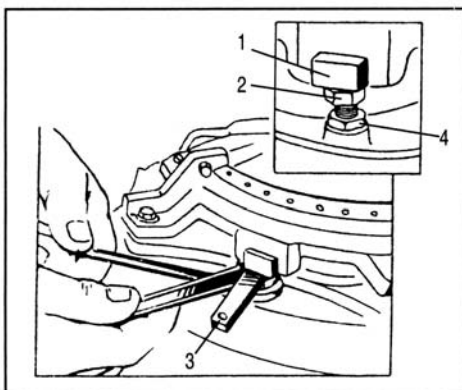

Fig.18 Adjustment of Clearance Between Release Bolt and Hold-down Plate Club of Assistant Friction Wafer
There should be proper pedal travel from the withershins of main clutch to assistant clutch beginning separating to avoid too-early releasing or ir-releasable of assistant clutch. To get a groper travel, the clearance between head end sides of three adjustable bolts 2 on clutch main press board and dummy clubs1 of assistant wafer press board is 1.4mm. During adjusting, release blocking nut (4), turn adjustable bolts, and use clearance gauge to get a clearance of 1.4mm between head end sides of adjustable bolts and dummy club of assistant wafer press board. After finishing adjustment, put nuts together tightly. (Fig. 18)